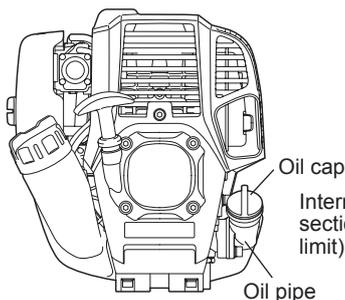

Fig. 1
- Set the engine level, remove oil cap (Fig. 1), and check to see whether or not there is oil in the range between the upper limit and lower limit marks of the oil pipe (Fig. 2).